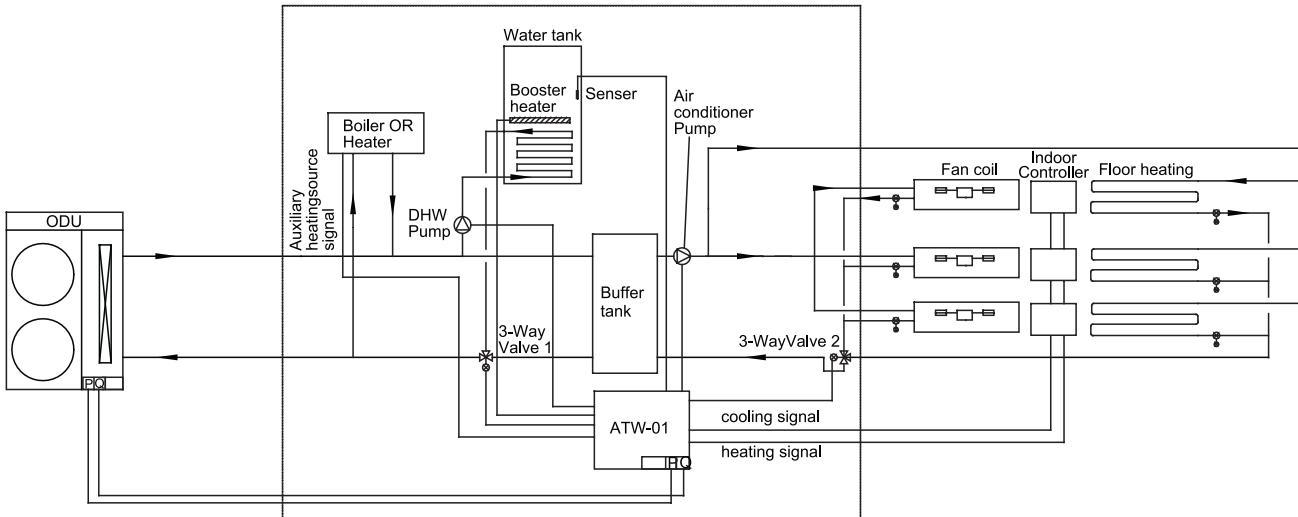

Fig.3 DHW controled by YR-E27
- YR-E27 together with DHW temperature sensor (Connected at CN31) which will be inserted into DHW tank while Outdoor PCB BM1-1 will be set to OFF (Fig.3);